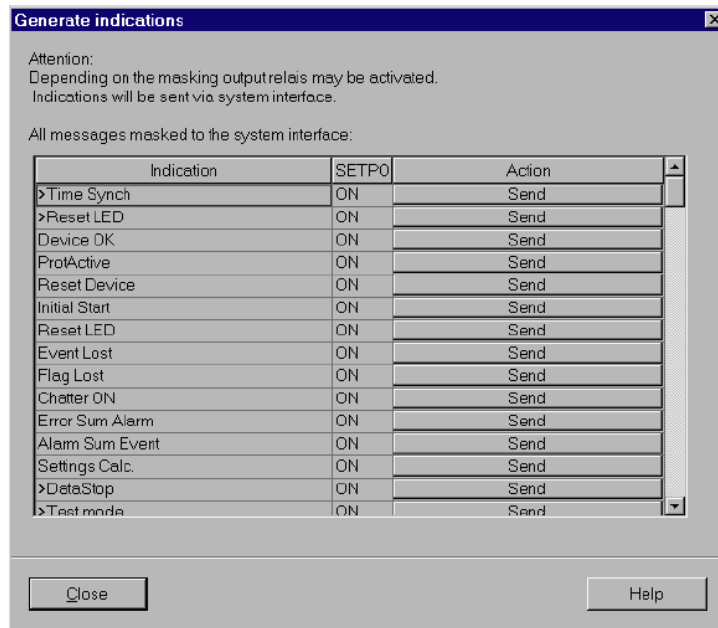

Figure 3-19 System interface test with dialog box: Generate indications — example
- Double-click in the list view on **Generate indications**. The dialog box **Generate indications** is opened (see Figure 3-19).